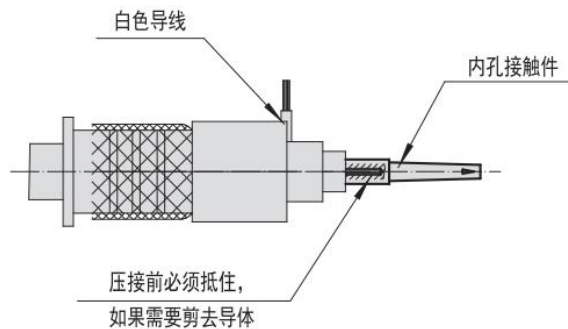

Figure 3.10
⑤ As shown in Figure 3.10, proceed as follows